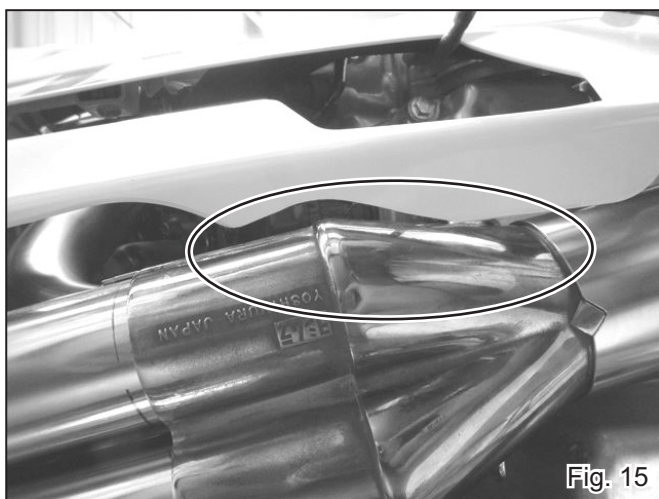

Fig. 15
**REFERENCE** Apply Heat Resistant Sheet where fairing and exhaust pipe is close and it prevents fairing from burning. However it is recommended to keep 5mm or more clearance between fairing and Yoshimura exhaust system. If it is closer, adjust the position or cut minimum part of fairing (See Fig. 15 on next page). If neglected, damage of fairing is not included in warranty.